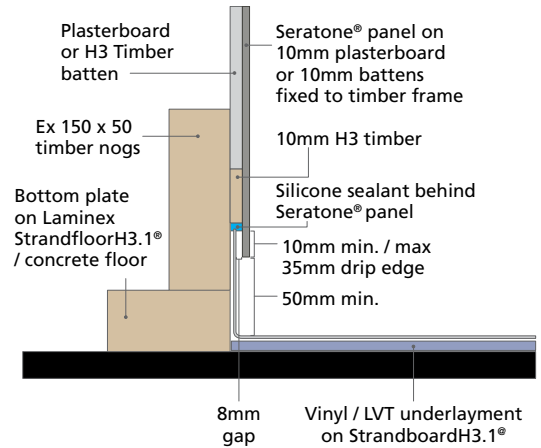

Figure 20.
- An alternative in dry areas (outside shower cubicle) a standard H jointer can be used (refer figure 20).